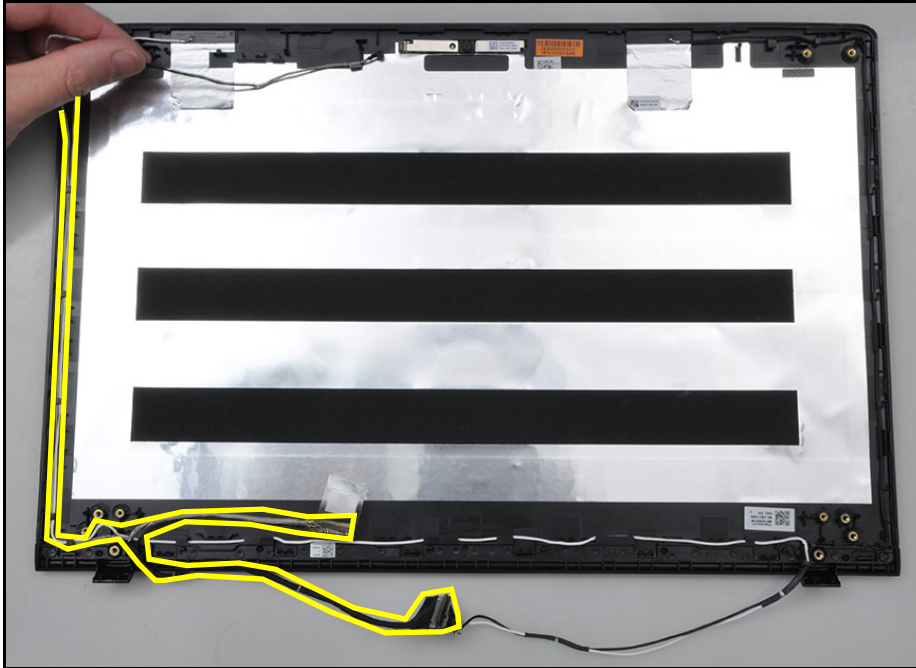

Figure 3-74. Replacing the eDP & Camera Cable
1. Place and secure the eDP and camera cable to the cable guides on the LCD cover (Figure 3-74).